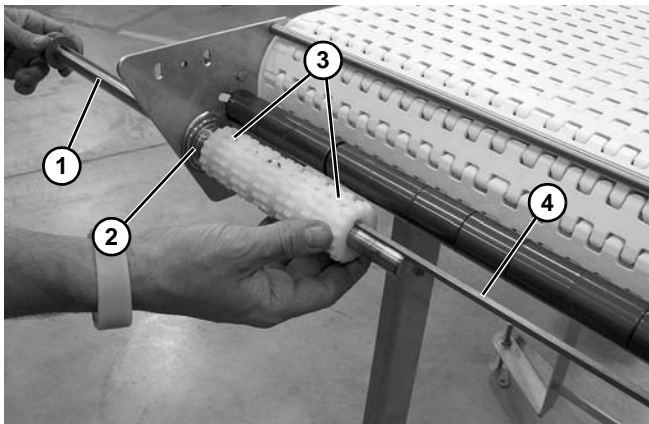

Figure 72
1. Insert drive shaft (**Figure 72, item 1**) through bearing (**Figure 72, item 2**).
2. Slide drive sprockets (**Figure 72, item 3**) and shaft key (**Figure 72, item 4**) onto shaft while pushing shaft through bearing.